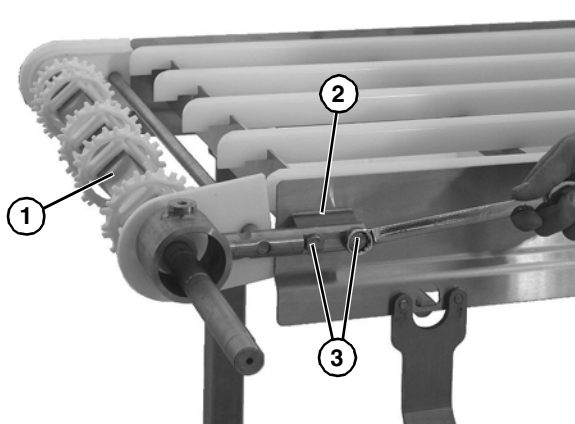

Figure 12
1. Install drive tail assembly (Figure 12, item 1) onto the mounting posts (Figure 12, item 2) and secure with two bolts (Figure 12, item 3) on each side.